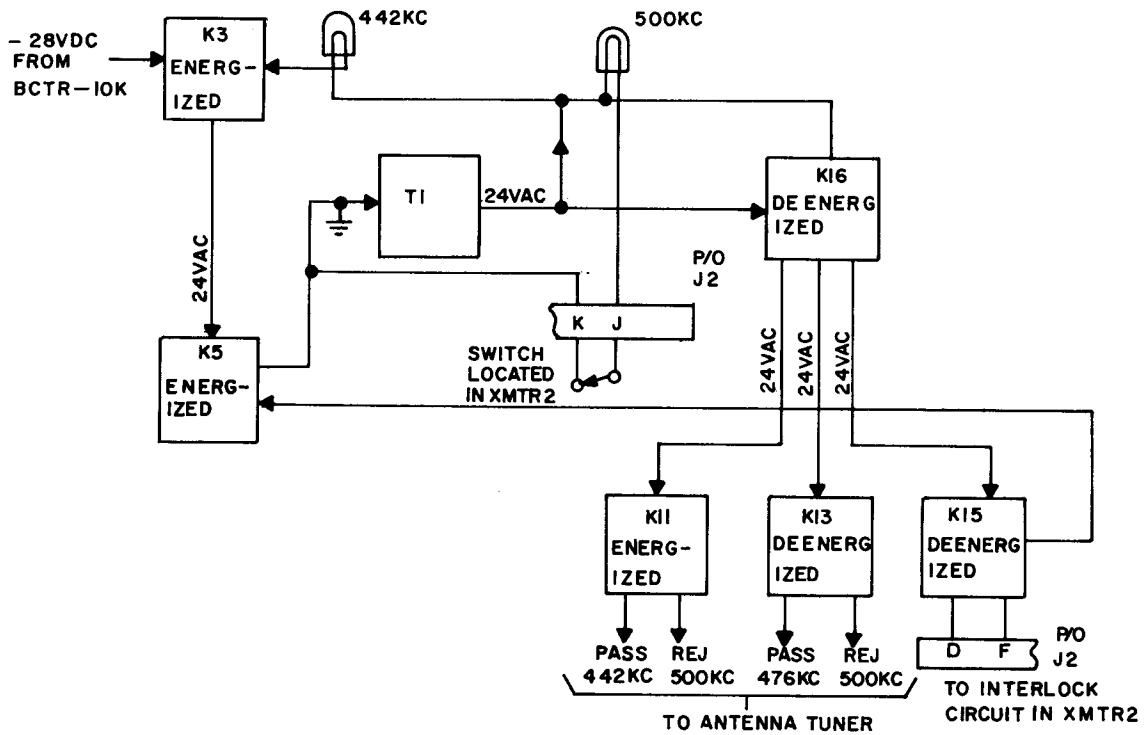

Figure 3-8A Pass Reject Diagram For 442 KC
h. PASS REJECT CIRCUIT OPERATION (Refer to figure 3-8A and B). - The Decoder is interconnected to the BCTR-10K transmitter, which is transmitter 1, a customer furnished transmitter, which is transmitter 2, and the Antenna Tuner.